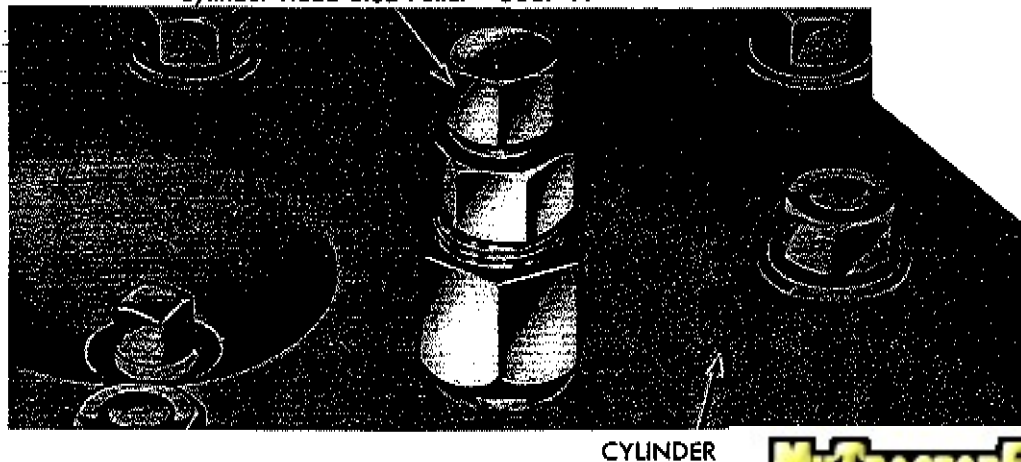

Fig. 13—Removing Cylinder Head !
c. **Stud Replacement.** Remove all damaged studs with a standard stud puller (fig. 13). To remove a broken stud, indent the end of the broken stud exactly in the center with a center punch. With a small drill, drill into the broken stud to a depth of approximately two-thirds of the length of the remaining portion of the stud, then follow up with a larger drill. The larger drill selected must leave a wall thicker than the depth of the threads. Select an extractor (EZ-out) of the proper size and insert it into the drilled hole, and screw out the remaining part of the broken stud. Install a new stud with a stud driver. Drive all studs until no threads show at the bottom of the stud.